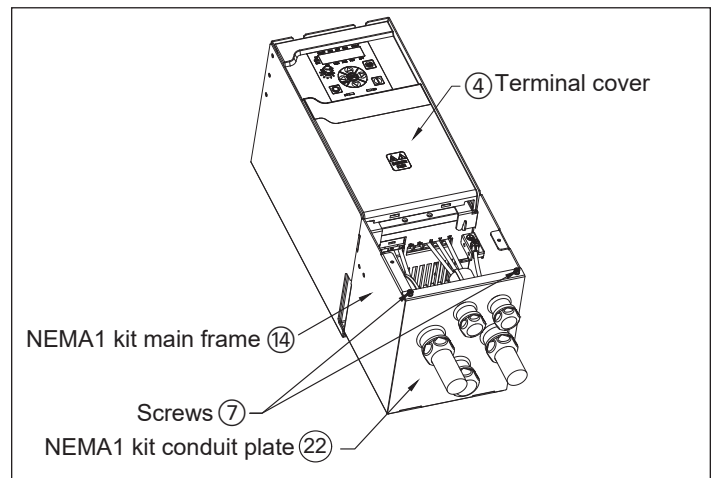

Figure 21. Mounting the NEMA 1 conduit plate and terminal cover.
Fix the NEMA 1 kit conduit plate (22) with the NEMA 1 kit main frame (14) by the two screws (7) (see Figure 21).
Mount the terminal cover (4) back to the drive (see Figure 21).